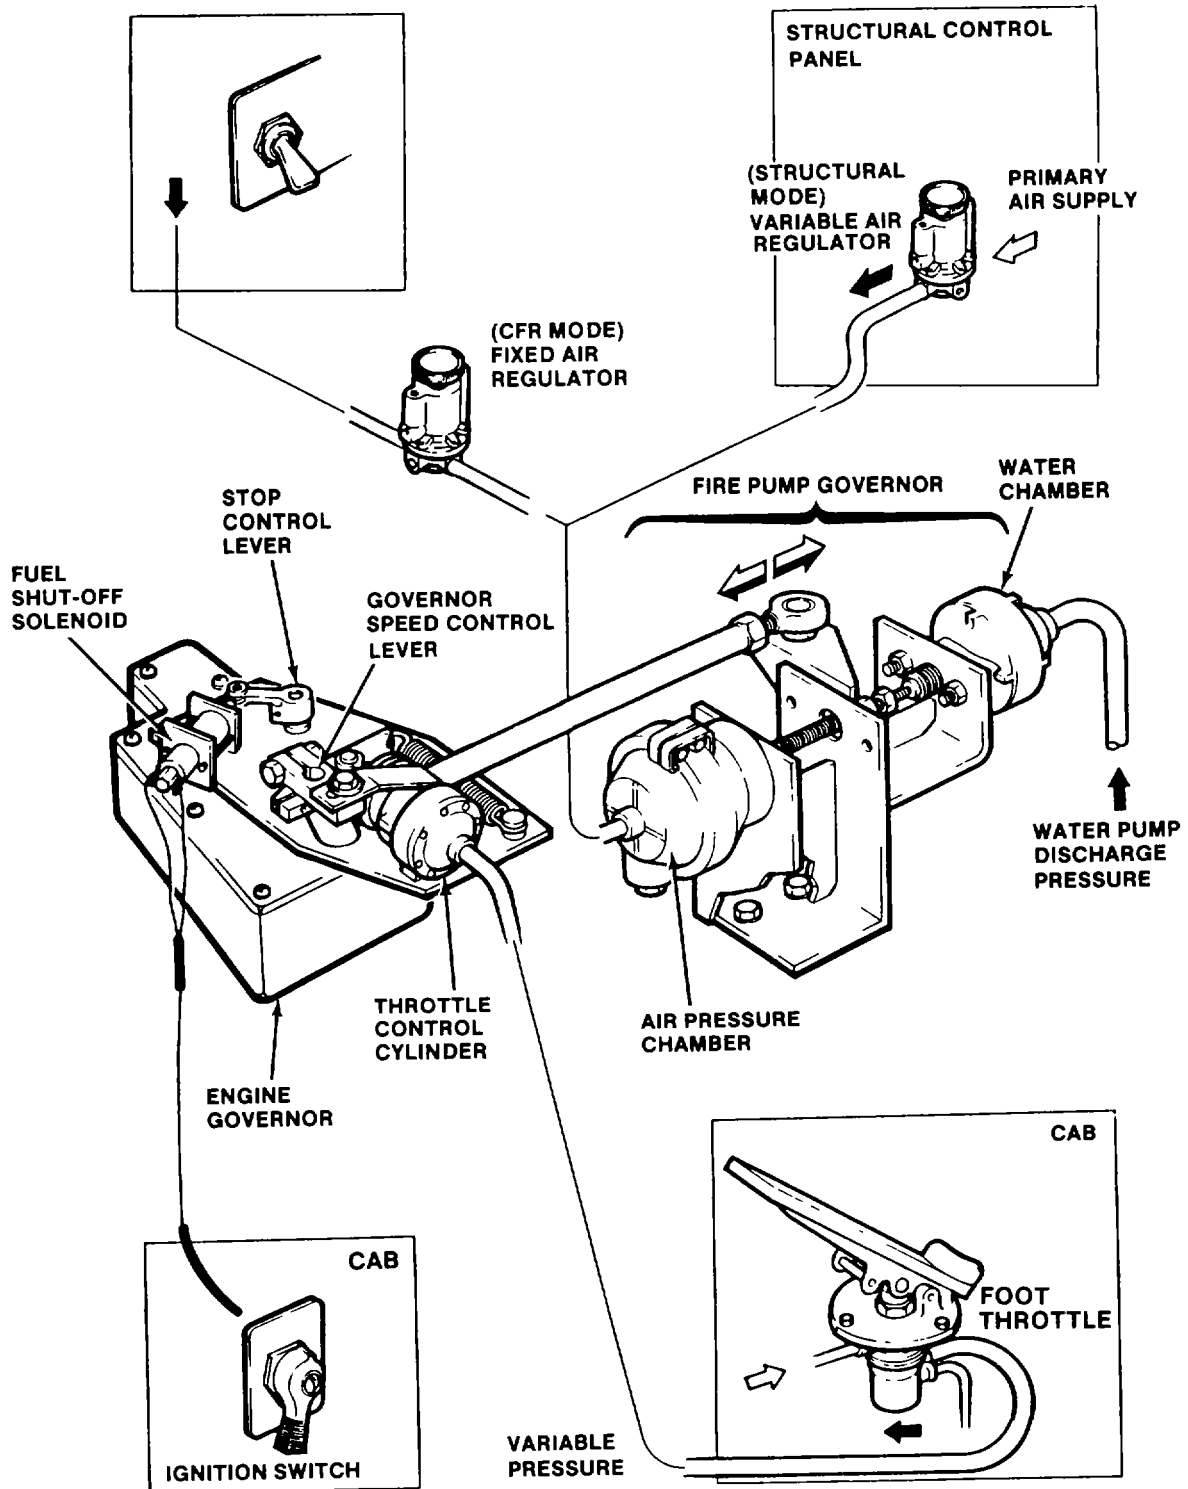

Figure 1-21. Engine Governor and Throttle
a. Throttle Control - Driving Mode To control the engine speed, an air-operated throttle control air chamber is provided. This air chamber is attached to the governor housing and linked via the governor speed control shaft to the injector fuel rack, (see fig. 1-21). Air pressure is provided to the throttle air chamber via the treadle valve/accelerator pedal. By depressing the accelerator pedal, the operator controls the air flow and thus the engine speed. An internal return spring in the control air chamber will retract the linkage and reduce the engine speed to idle when the accelerator pedal is released. An external return spring provides a similar function. It is provided to ensure positive retraction of the linkage should the internal spring fail.
(1) Variable, stabilized engine speed is required to provide infinite control of the water pump pressure. To achieve this, a pressure-regulated throttle control governor is mechanically linked to the engine speed governor. The throttle control governor consists of two pressure chambers mechanically connected to the governor speed control shaft. The pressure provided in the air chamber will increase the engine speed. This will result in increased water pressure which, via the water pressure chamber, will tend to retard the speed. Stable speed is obtained when the force from the water pressure equalizes the force from the air pressure.